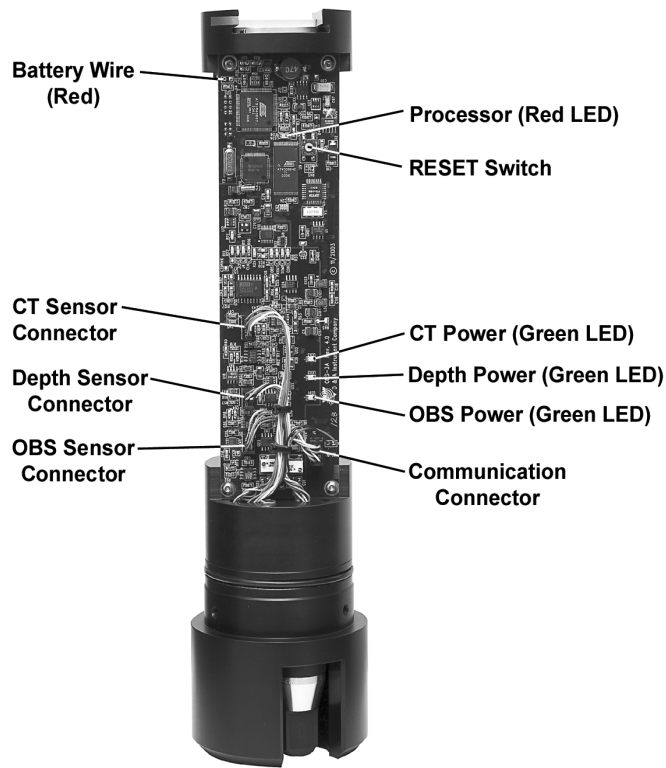

FIGURE 8-1. Component locations
- Open unit and inspect for broken sensor and communication wires and loose connectors (FIGURE 8-1).